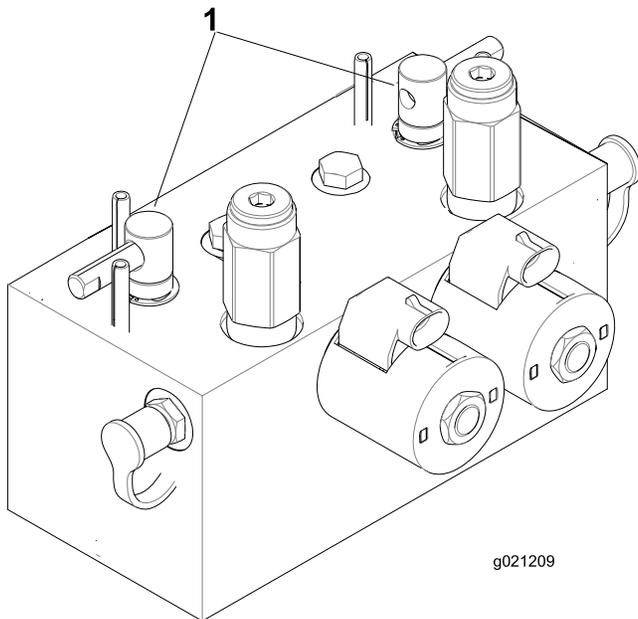

Figure 75
2. Unlock and raise the seat to expose the backlap levers (Figure 75).
5. Select either front, rear, or both backlap levers to determine which units to backlap (Figure 75).